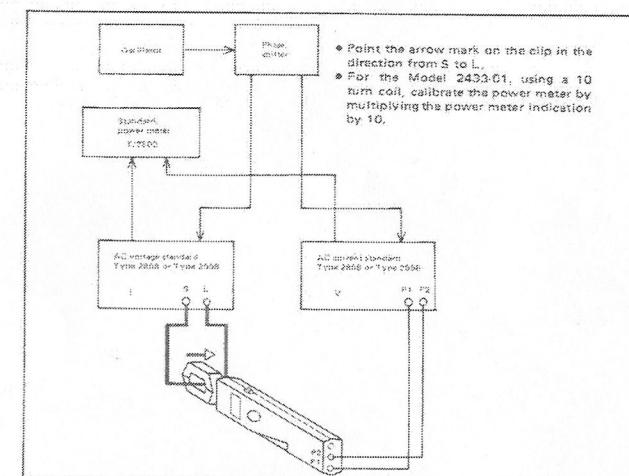

Figure 2-3. Wiring Diagram for Model 2433 Inspection and Adjustment
(1) Adjust the analog output voltage with a load resistor $1 \text{ M}\Omega \pm 1\%$ connected in parallel to the digital voltmeter inputs.
(2) Always perform power meter adjustments strictly in the order they are described in this manual and if a part of procedure must be repeated, observe the correct order of adjustments.
(3) Adjust the clip-on AC power meters according to the indication of an AC voltage/current standard or standard power meter when the 10 turn coil for the Model 2433-01 or one turn coil for the Model 2433-02 is used.
(4) The automatic ranging method is used for the Model 2433, so, when adjusting Lo (low) range, confirm that the power meter is in low range mode.
(5) Adjust the power range at $\cos \varphi = 1$ and use the current for fine power adjustment.
(6) Adjust the PCB Ass'y after following items are confirmed using an oscilloscope (for zero voltage and current inputs).
(7) Wire the instruments for inspection and adjustment to the Model 2433 as shown in Figure 2-3.